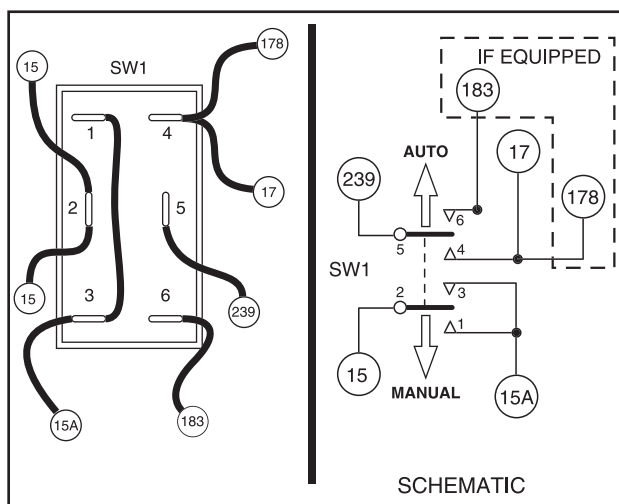

Figure 2. AUTO-OFF-MANUAL Switch Test Points
2. Connect the positive (+) test lead to the AUTO-OFF-MANUAL switch Terminal 2, Wire 15. Connect the negative (-) test lead to a clean frame ground. Battery voltage should be measured (See Figure 2).